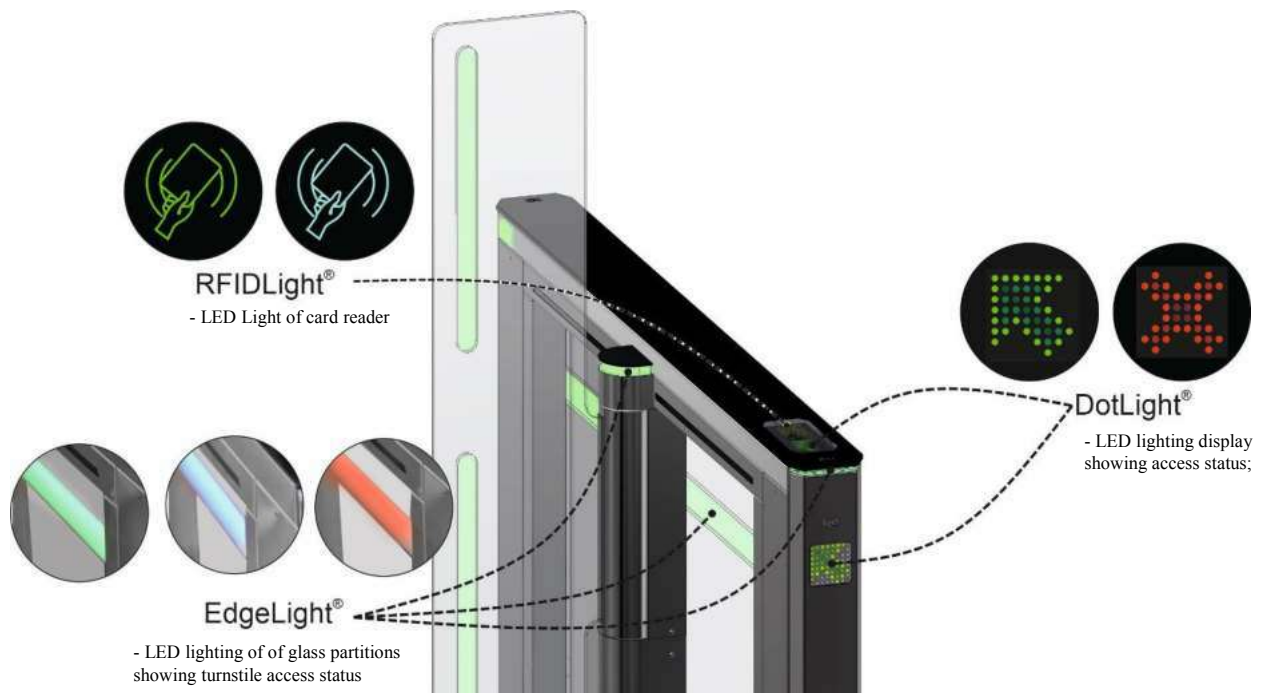

Fig.6 – Light indication of the turnstile status
The turnstile status is displayed by LED display board (3) *DotLights*®, installed in the cabinet's frame. The lit blue LED means initial state of the turnstile (Fig.6). In case of attempt of unauthorized access red LED starts blinking and audible signal is generated on control desk. When opening command is issued, LED is changed to green from the side of authorized access. If unauthorized access is attempted when swing leaves (10) are opened, then the leaves will be closed, if there is no any obstacle in the leaves' swinging area.